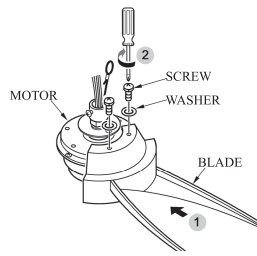

FIG.1
1. Attach each blade assembly to the fan body using the blade screws. Tighten them securely.(See Fig.1)